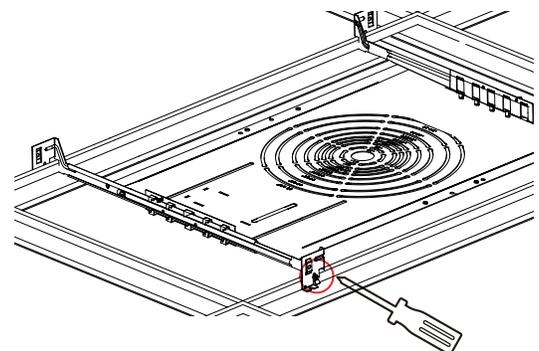

Fig. 20
3. If required by code, connect the hanger bars to the T-grid with self-tapping sheet metal screws (Fig. 20).